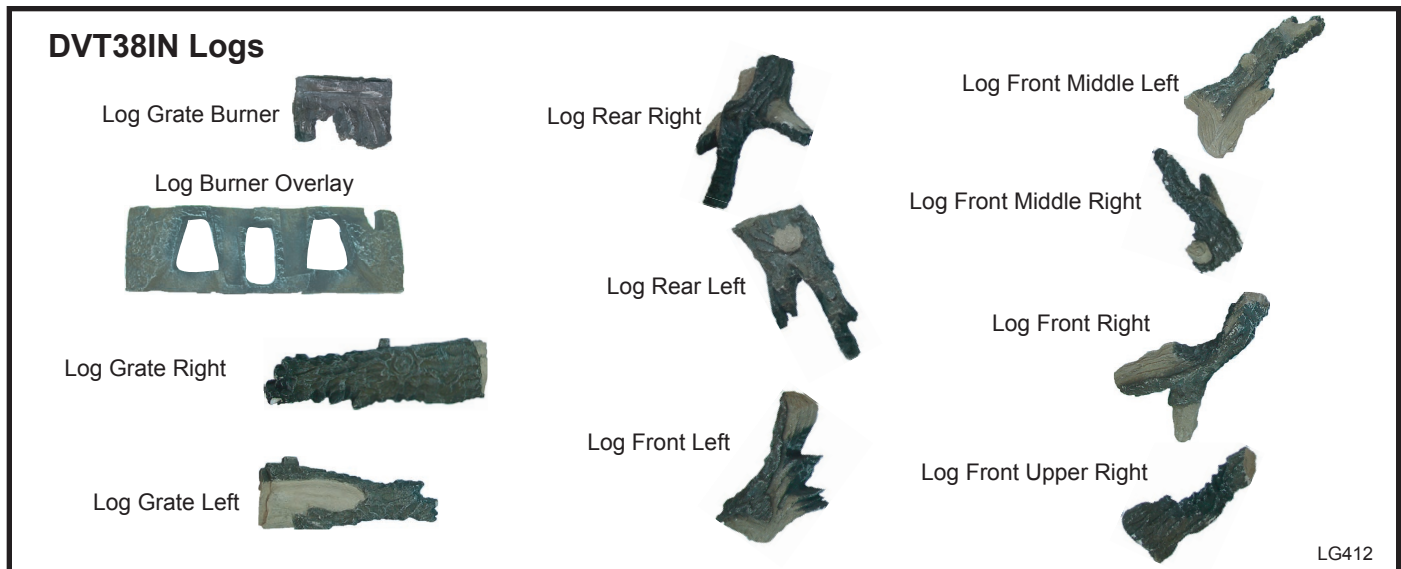

Fig. 40 DVT38IN log identification.
**IMPORTANT: Review these instructions and familiarize yourself with each log before beginning log placement. Find the notches, pins and indentations on each log. Follow the instructions closely, using the Log ID (Fig. 40 or 41) and the illustrations to assist in correctly placing each log.**